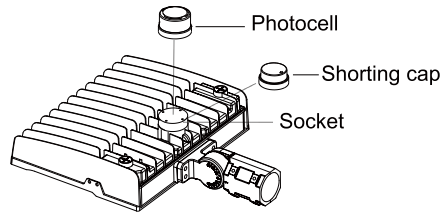

figure 15
**Attention:**When the photocell function is required, it should be installed in the back of the fixture, please make sure to remove the shorting cap after installation, since if it is not removed, this will prevent photocell to work. Photocell is sold separately for 205W&300W.(figure 15 )